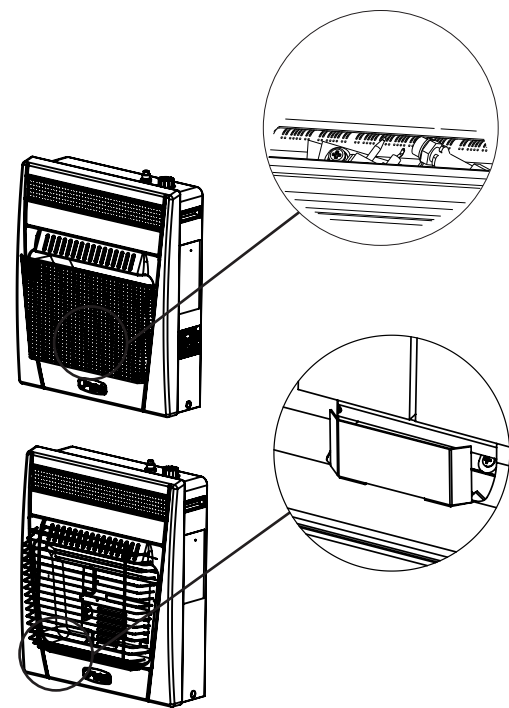

Fig. 16: Pilot Flame Location
6. With control knob depressed, push down on the ignitor button until the pilot lights. The pilot is visible centered below the burner, behind the front grill (see Fig. 16).
7. Keep control knob depressed for (30) seconds after pilot lights. Release control knob.
- If pilot goes out repeat steps 3 through 7. Wait (1) minute before attempting to light pilot again. If after several tries the pilot still goes out, turn the gas control knob clockwise  to the "OFF" position and call your service technician or gas supplier.